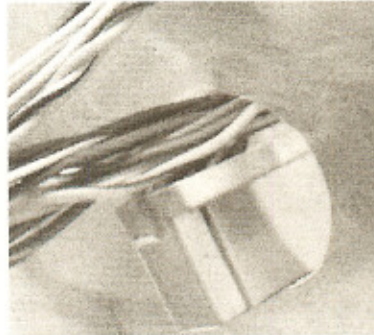

Figure 2
1. Holding one of the purple connectors, carefully bend the wiring flush with the back of the connector. Be very careful so none of the wires are pulled out of their cavities. Feed it through the access hole. Be careful that you do not damage the wires while feeding them through the access hole. (See Figures 2 and 3). Repeat for the next connector.